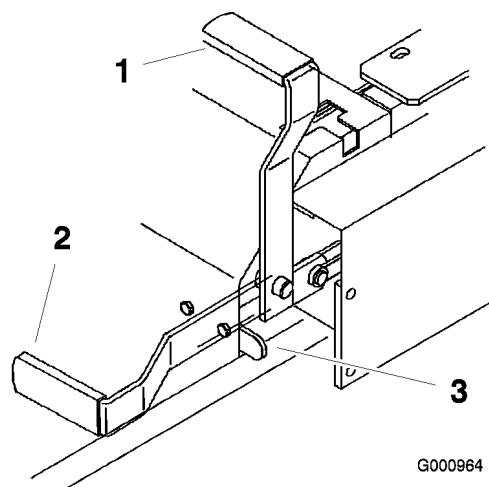

Figure 12
2. Pull up and back on the parking brake lever to set the parking brake (Figure 12). The parking brake lever should stay firmly in the engaged position.
Push forward and down on the parking brake lever to release the parking brake (Figure 12). The parking brake is disengaged and the lever will rest against the brake stop.